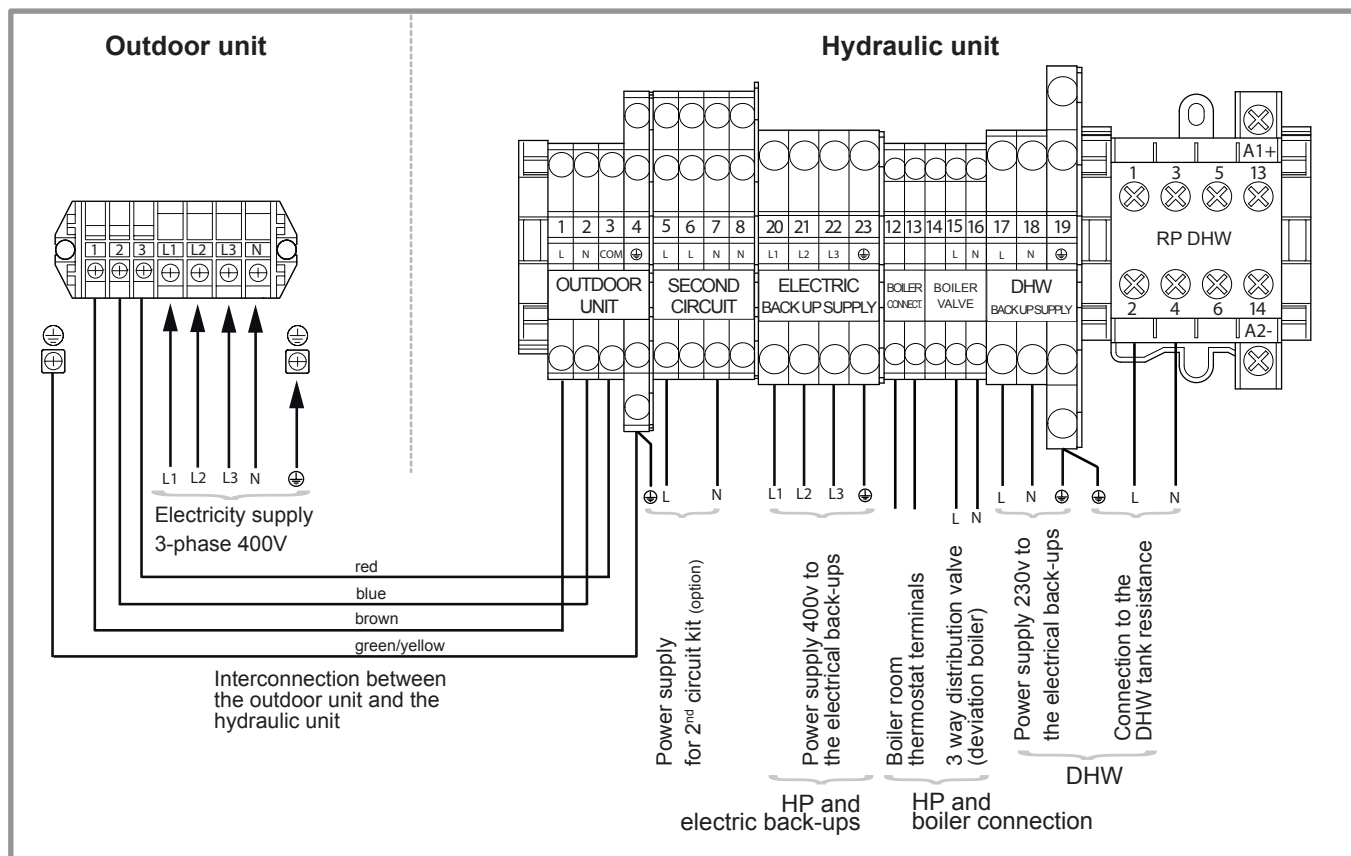

Figure 37 - Connection to terminal block and power relays
- Make the connections in accordance with the diagram(s) (figure 37, page 26).
diagram(s) figure 37, page 26.